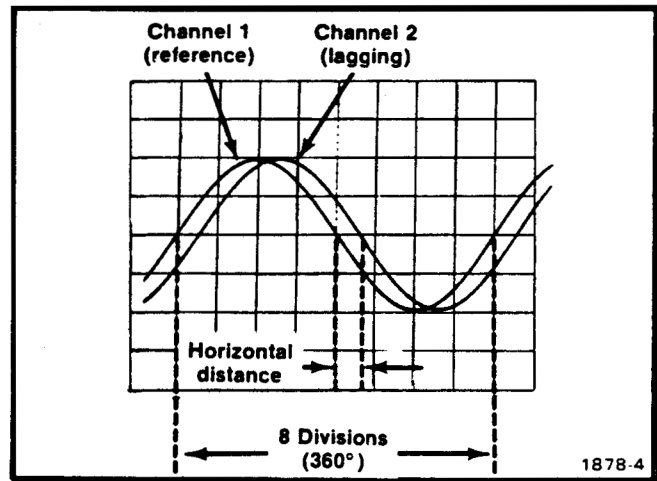
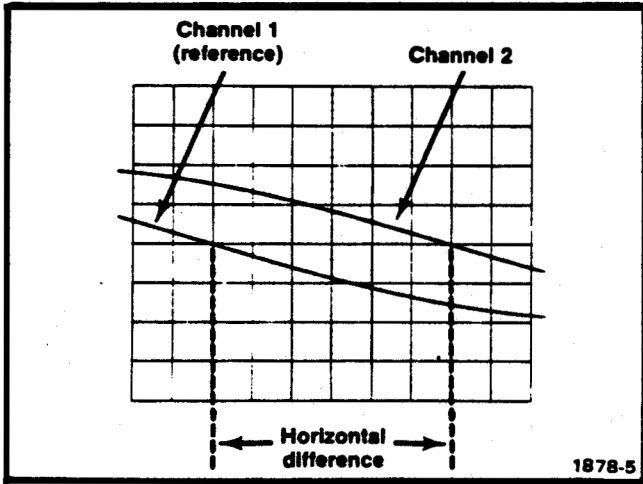

Fig. 2-8. Measuring phase difference.
Fig. 2-9. High-resolution phase difference measurement with increased sweep rate.
9. Turn the variable SECONDS/DIV control until one cycle of the reference signal (channel 1) occupies exactly eight divisions between the second and tenth vertical lines of the graticule (see Fig. 2-8). Each division of the graticule represents 45° of the cycle ( $360^\circ \div 8 \text{ divisions} = 45^\circ/\text{division}$ ). The sweep rate can be stated in terms of degrees as 45°/division.
EXAMPLE: Assume a horizontal difference of 0.6 division with a sweep rate of 45°/division as shown in Fig. 2-8. Use the formula:
EXAMPLE: If the sweep rate were increased 10 times with the magnifier, the magnifier sweep rate should be  $45^\circ/\text{division} \div 10 = 4.5^\circ/\text{division}$ . Fig. 2-9 shows the same signals as used in Fig. 2-8, but with the X10 SWP MAG control pulled out. With a horizontal difference of six divisions, the phase difference is: